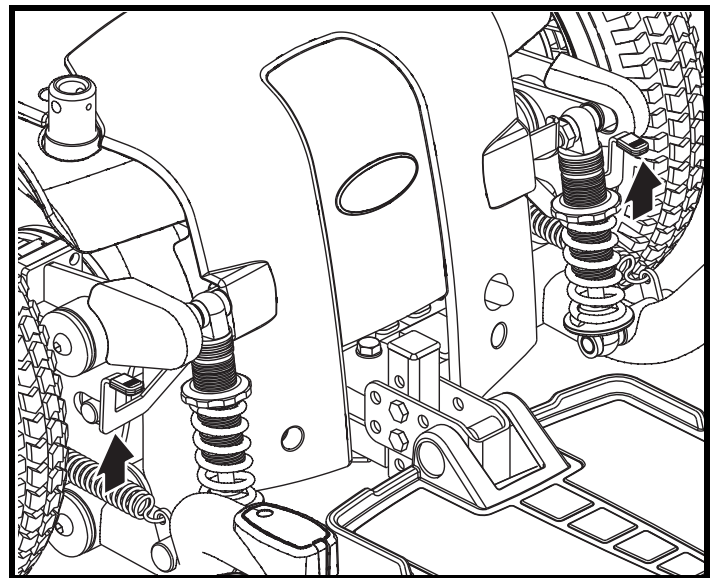

Figure 9. Drive Mode (Drive Engaged)
3. Pull the two levers upward to engage the drive motors (drive mode). See figure 9.